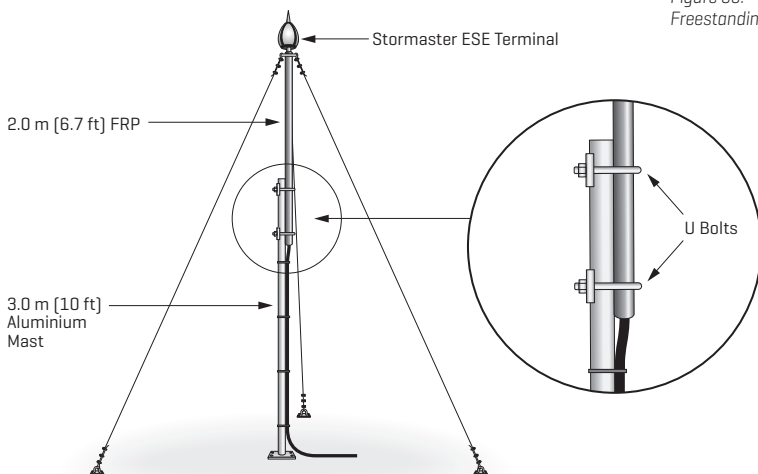

Figure 36.
1. The U-Bolt set uses two stainless steel U-Bolts to clamp the two masts together Figure 36